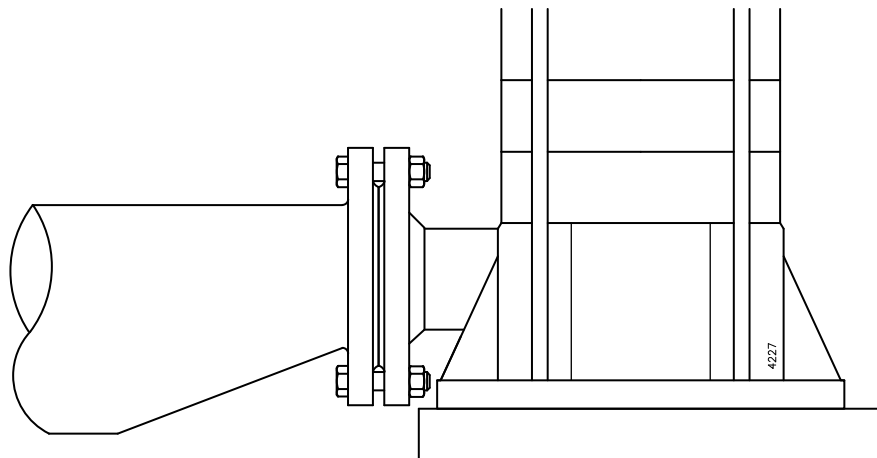

Figure 2: Eccentric reducer to suction flange.
- The passage of the suction pipe must be amply dimensioned. This pipe should be as short as possible and run towards the pump in such a way that no air pockets can arise. If this is not possible, a venting facility should be provided at the highest point of the pipe. If the inside diameter of the suction pipe is larger than the suction connection of the pump, an eccentric reducer should be applied to prevent air pockets and whirls. See figure 2.